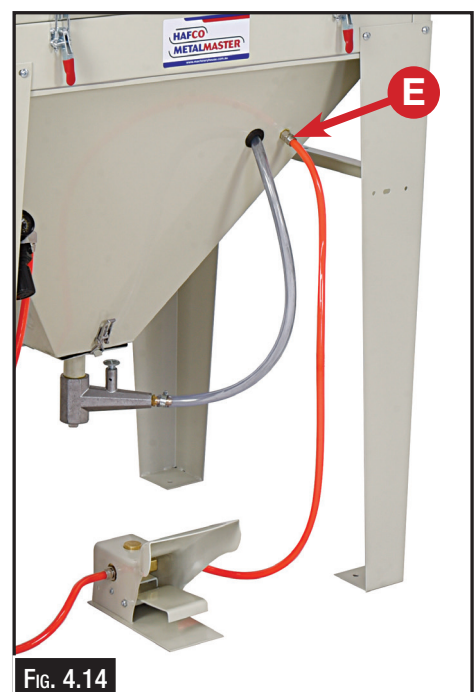

FIG. 4.14
16. Connect the air line from the outgoing side of the foot pedal to the air fitting on the right-hand top side of the hopper (E). Ensure the securing nut is tightened firmly. (Fig. 4.14)